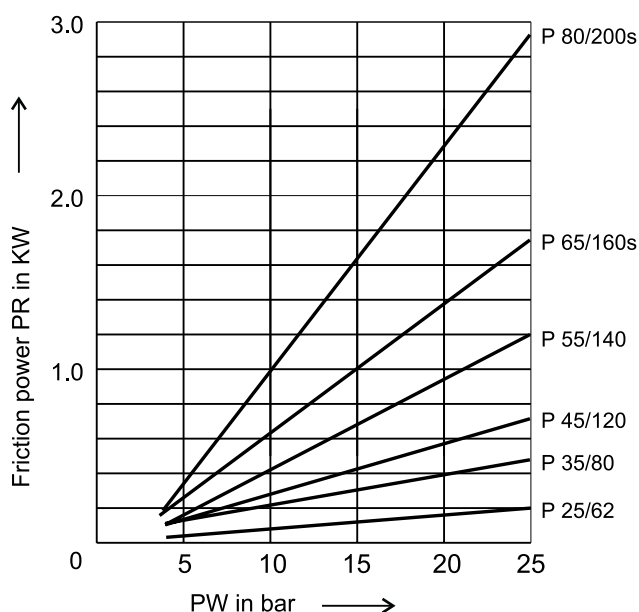

Fig. 17a : Power loss due to stuffing box
1. Gland pack execution, pressure v/s power loss at 1450 rpm : refer fig. 17a.